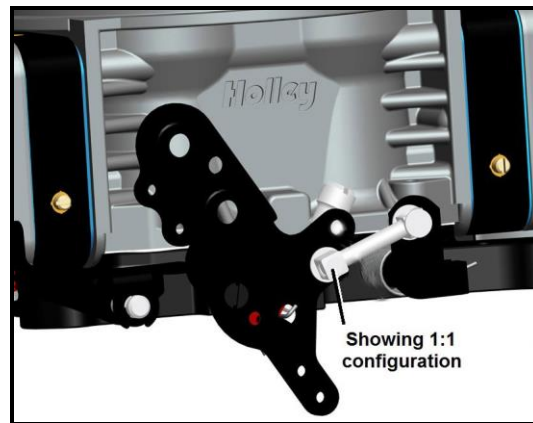

Figure 12
3. For progressive operation, the link will need to be installed into the hole of the throttle lever furthest from the throttle shaft (See **Figure 12**).